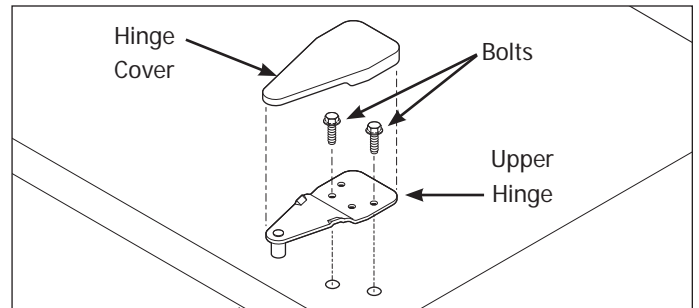

Figure 5-32. Upper Hinge Removal
2. Lift plastic cover off upper hinge assembly. (See Figure 5-32)